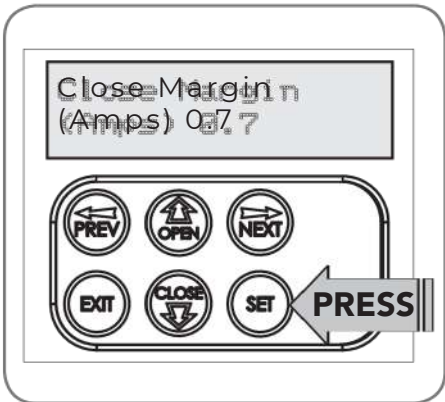

Fig 9.3
- c. MENU 2.1: CLOSE Margin is displayed (Fig. 9.3).